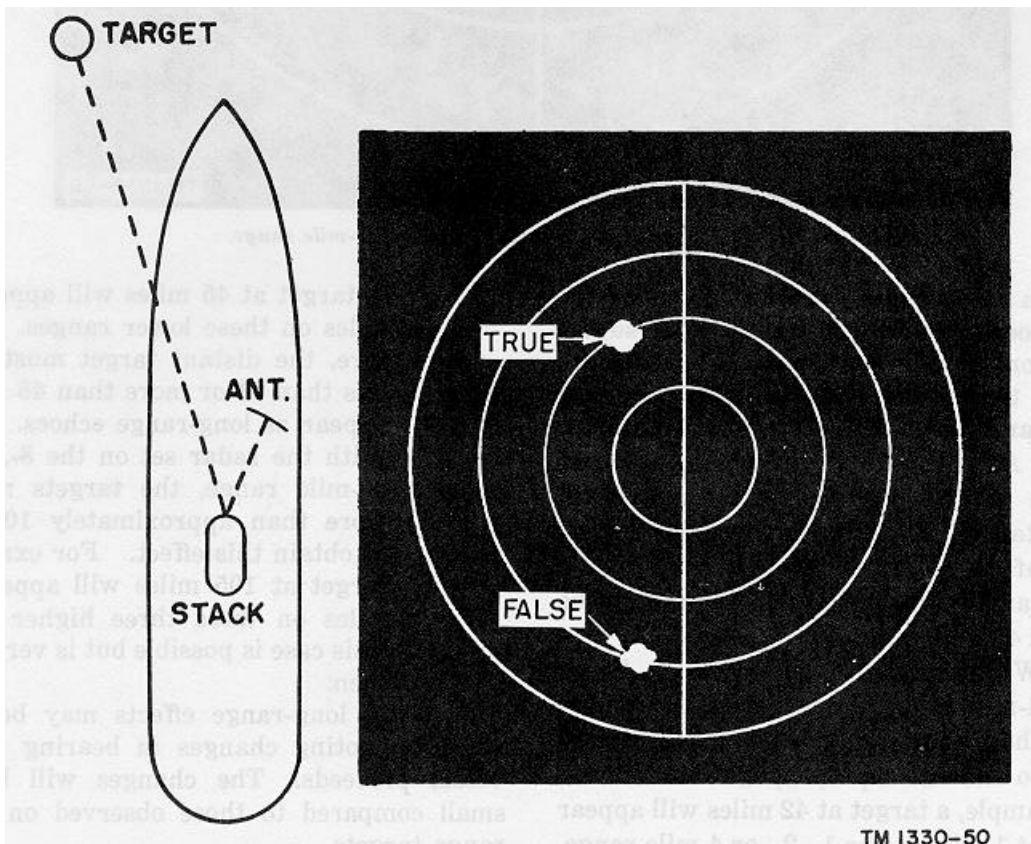

Figure 76. False target in aft position on 1-mile range.
b. Figure 76 illustrates a reflection from the stack aft of the radar antenna. This causes a forward target to appear as if it were astern. A little later when the antenna is pointing at the target, its echo appears at the correct position.